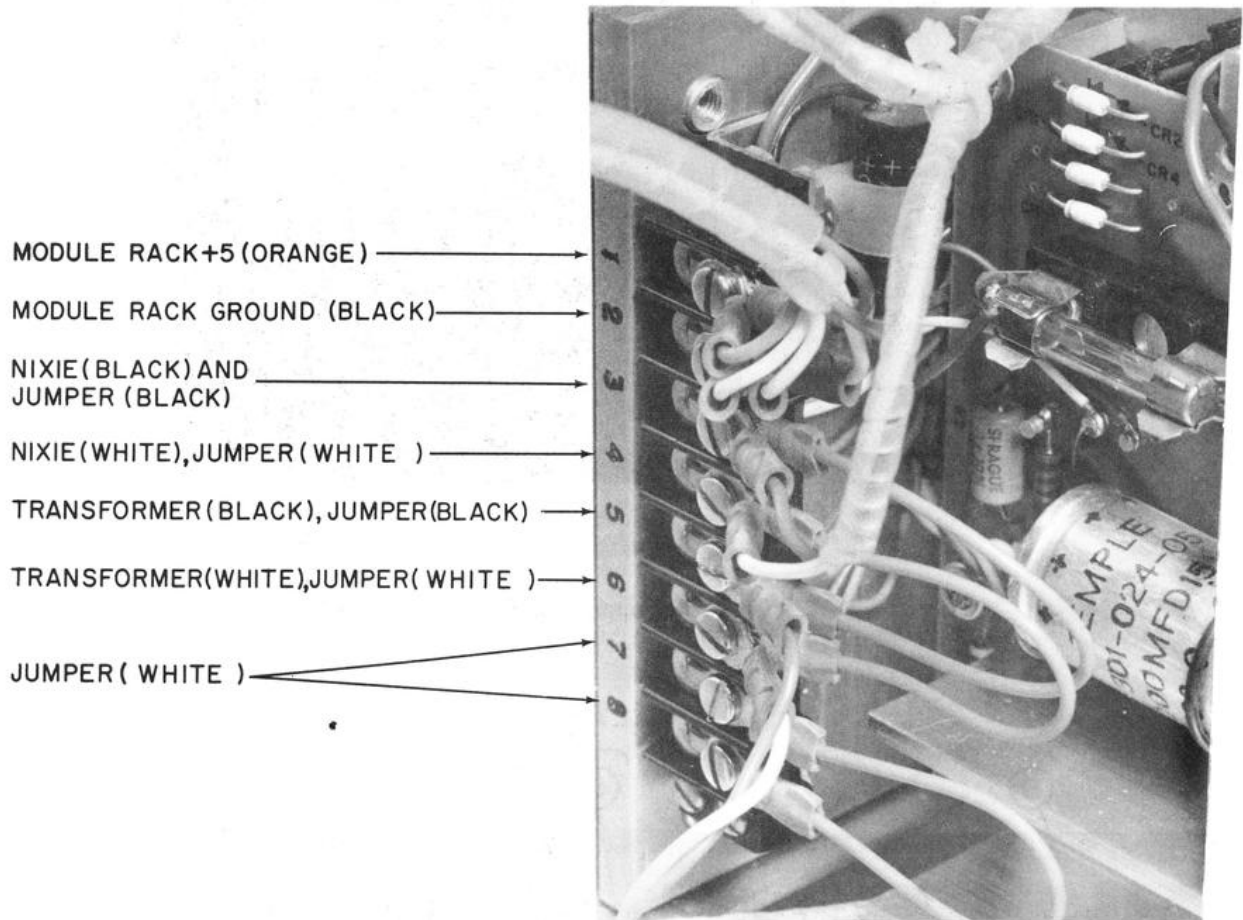

Figure 2-24 Power Supply – Terminal Board (TB) Wiring Guide
5	Make the following connections on the Power Supply Terminal Board (TB). Refer to Figure 2-24. () Connect the 44 in. black from the K771 nixie supply to TB 5. Also, connect a 6 in. black jumper to TB 5.